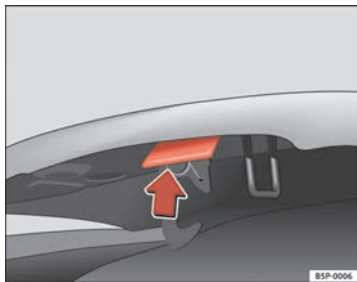

Fig. 176 Release catch under the bonnet
- Press the release catch under the bonnet upwards ⇒ fig. 176. This will release the arrester hook under the bonnet.